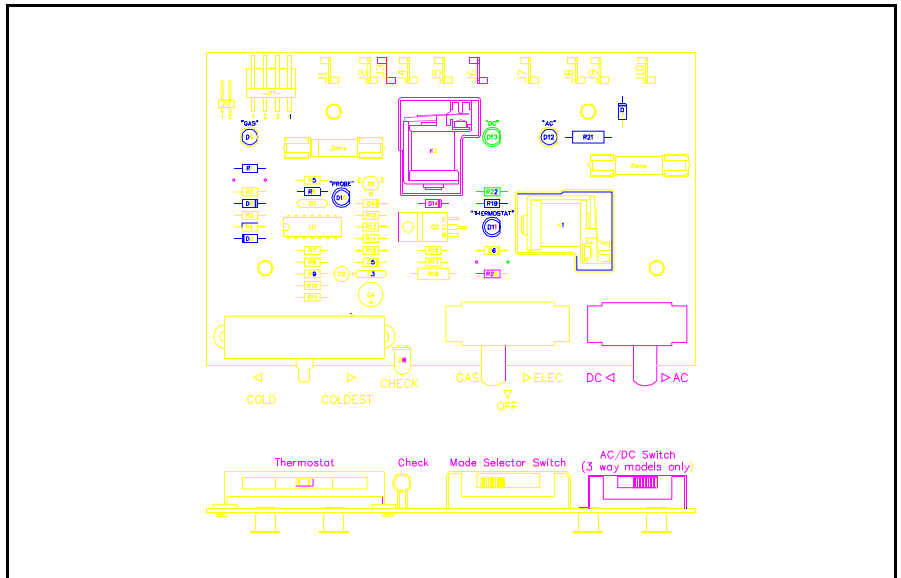

Figure 4.23 Switch Settings for Checking Gas Mode
1. Set Mode selector switch to the "Gas" position as shown in Figure 4.23.